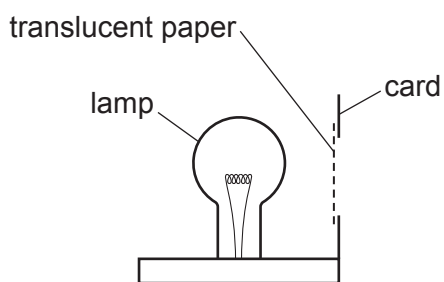
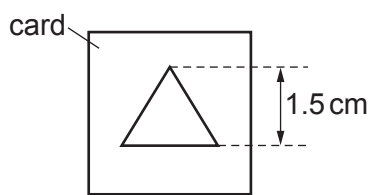

Fig. 3.1
Fig. 3.2
- (ii) Illuminated object with a triangular hole of height 1.5 cm (see Fig. 3.1 and Fig. 3.2). The hole is to be covered with thin, translucent paper (e.g. tracing paper). See notes 1 and 2.